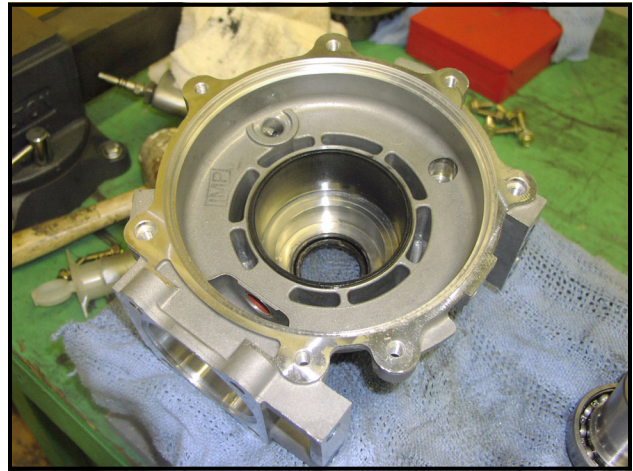

Figure 9-43 Position Gearcase with Seal Down
4. Position the gearcase on a clean solid surface with the output seal down (**Figure 9-43, Page 9-15**). See following **NOTE**.